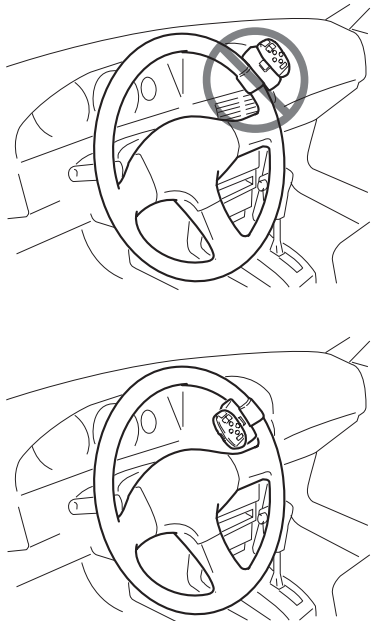

Fig. 12
- Do not attach this unit to the outer circumference of the steering wheel. Otherwise, it disturbs driving stability, causing a traffic accident. Always attach this unit to the inner circumference of the steering wheel as shown. (Fig. 12)